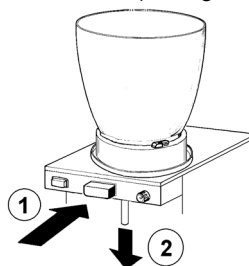

figure 1
3 Push (1) the dispensing button and remove (2) the pinch tube from its seat by taking it out downward (see figure 1).